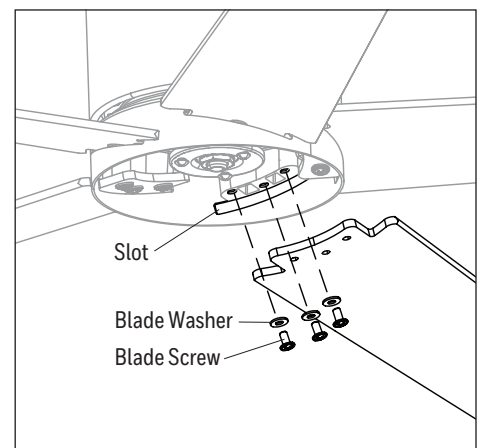

Figure 4.3
- Insert blade through slot in the side of the motor assembly. Align the holes of one blade with three blade screw holes in underside of the motor assembly. Secure with the three blade screws and blade washers. Repeat this step for the remaining blades (Figure 4.3).